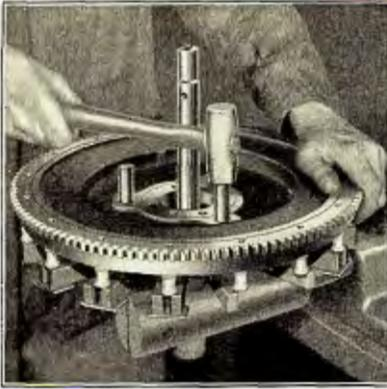

Fig. 195
- 289** The shafts are removed by driving them out from the inside of the flywheel, with a brass hammer as shown in Fig. 195; the new shafts being driven in from the opposite side. As the holes in the cast iron flywheel become slightly enlarged when the steel shafts are withdrawn, it is necessary to use T-3315-T-751-AR shafts, which are .003" oversize on the section of the shafts which fits into the flywheel. The magnets are now assembled to the flywheel as described in Pars. 285 to 287, new magnet clamp screws being used.